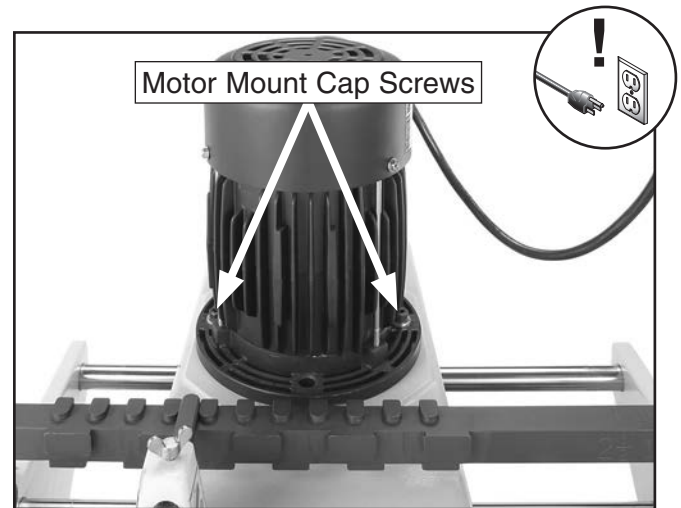

Figure 53. Motor mount cap screw locations.
2. Loosen the two motor mount cap screws shown in **Figure 53**.
- Loosen the two motor mount cap screws shown in **Figure 53**.